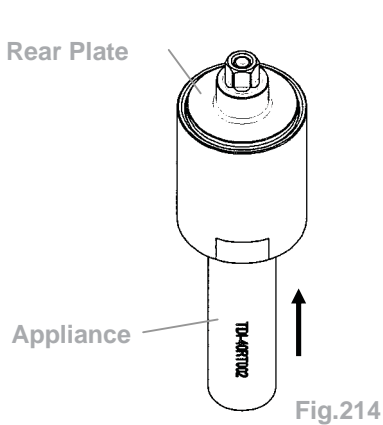

Fig.214
- 4.2 Use the appliance to push out the rear plate from the pulse cylinder seat. See Chart 2 in reference to the proper appliance selection. (Fig. 214)